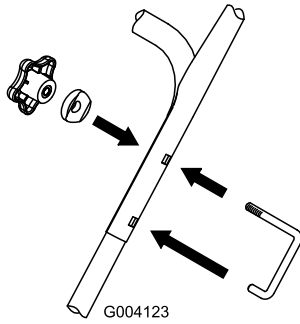

Figure 6
- Loosely install the handle bolts, curved washers, and knobs (Figure 6).